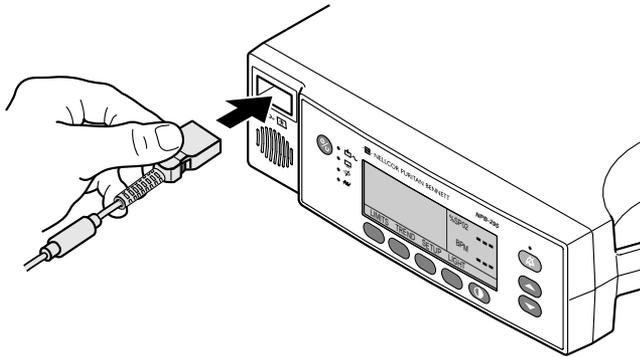

Figure 15: Connecting a Sensor to the Monitor
3. Insert the connector at the other end of the pulse oximetry cable into the front of the monitor, as shown in Figure 15.